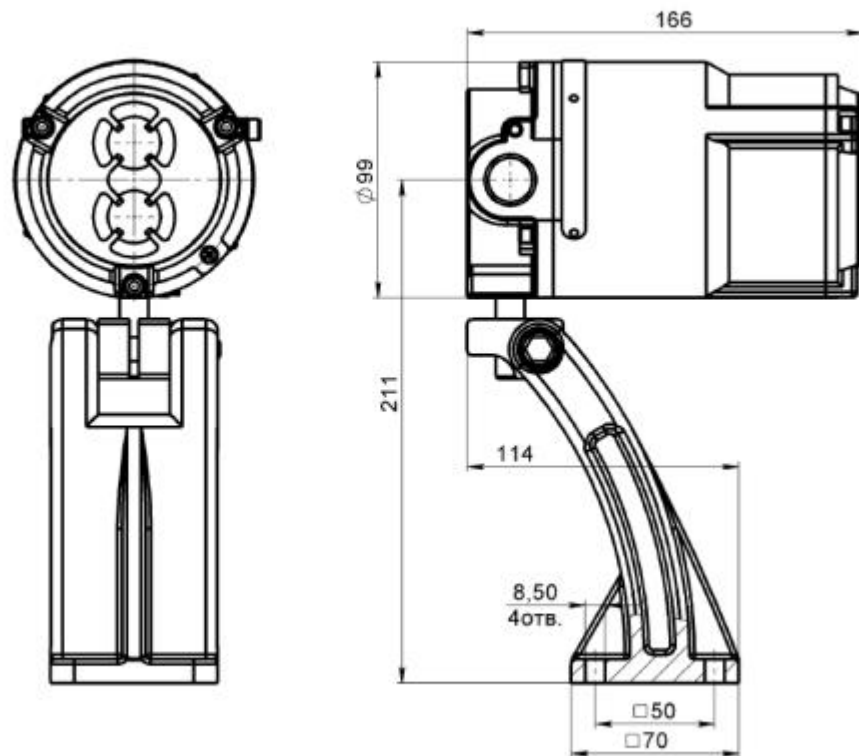

Figure 2 - Overall dimensions of the detector with a mounting bracket
- fix the mounting bracket at the FD 329/330-3-1 «VEGA» workplace, install a base on it and fix it with a screw and a lock nut. The detector with a mounting bracket and its overall dimensions are shown in figure 2;